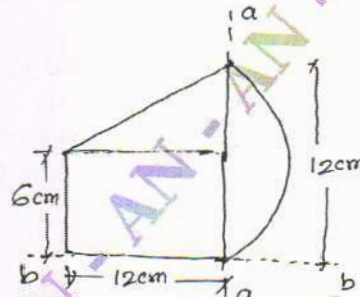

Fig. Q1(b)
- b. Locate the centroid for the composite section shown in Fig. Q1(b) about the given axis a – a and b – b. (12 Marks)